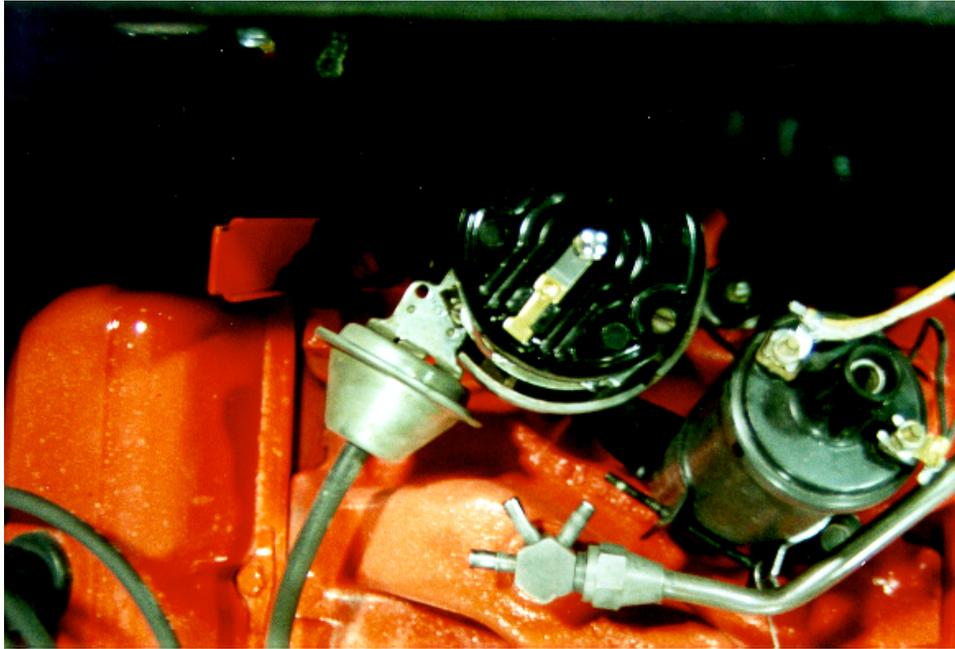

Figure 1: Distributor & Rotor Correctly Installed at #1 Firing Position
3. Hold the distributor body in the orientation shown in figure 1 relative to the engine/block and drop the distributor straight down into the block. Pay no attention to rotor orientation at this time. If the rotor is aligned with the oil pump driveshaft, the distributor will drop all the way down and seat. If the rotor does NOT line up, the distributor will not drop all the way down.
6. Once you have "walked" the rotor into position, you should be able to obtain the orientation of the distributor body and the rotor as shown in Figure 1. Install the distributor hold-down clamp and bolt. Snug it, but leave it loose enough that you can rotate the distributor smoothly.
7. Attach an Ohm-Meter (continuity tester) between the distributor primary lead wire (the wire coming out of the bottom of the distributor body) and ground (any point on the engine). Rotate the distributor body SLIGHTLY clockwise from the orientation shown in Figure 1 until you read continuity (points are closed – giving continuity to ground). Now, SLOWLY rotate the distributor body counter-clockwise until the points JUST break open (loss of continuity on the ohm meter). The instant the points break open is the ignition firing point. Tighten your distributor hold-down bolt at this point. Your distributor body and rotor should now be aligned like Figure 1 (or VERY close).